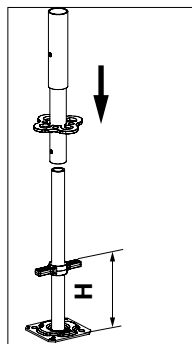

Fig. A2.01a
- the Instructions for Assembly and Use. (Fig. A2.01a)
2. Position Base Standard UVB 24 on the base spindle. (Fig. A2.01a)